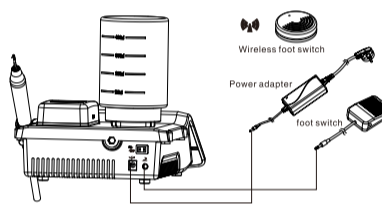
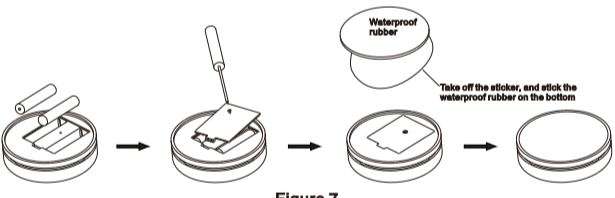

Figure 3
Figure 7
3)Install the battery of wireless control foot switch, or insert the plug of the cord foot switch to the main unit.(Figure 7, Figure 3)